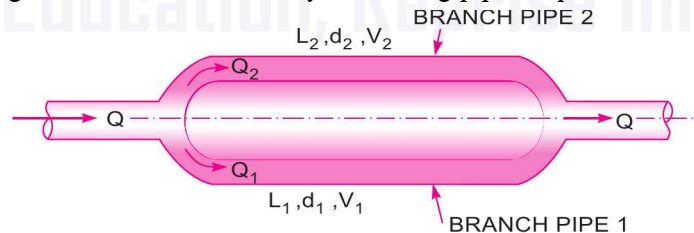

Fig. 11.17
Consider a main pipe which divides into two or more branches as shown in Fig. 11.17 and again join together downstream to form a single pipe, then the branch pipes are said to be connected in parallel. The discharge through the main is increased by connecting pipes in parallel.
The rate of flow in the main pipe is equal to the sum of rate of flow through branch pipes. Hence from Fig. 11.17, we have
**Problem 11.32** A main pipe divides into two parallel pipes which again forms one pipe as shown in Fig. 11.17. The length and diameter for the first parallel pipe are 2000 m and 1.0 m respectively, while the length and diameter of 2nd parallel pipe are 2000 m and 0.8 m. Find the rate of flow in each parallel pipe, if total flow in the main is 3.0 m3/s. The co-efficient of friction for each parallel pipe is same and equal to .005.